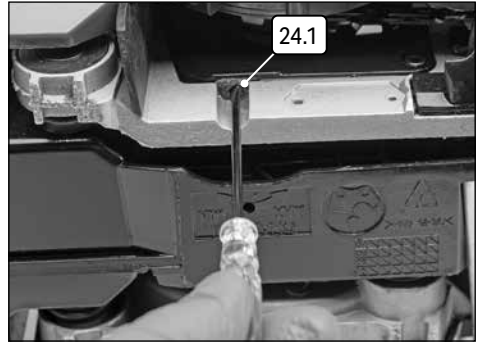

Fig. 24
8.2 Chain Lubrication (Fig.24)